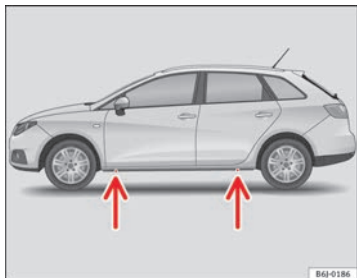

Fig. 133 Jack position points
- Locate the jacking point under the door sill closest to the wheel to be changed ⇒ fig. 133.
Recesses at the front and rear of the door sills mark the jacking points ⇒ fig. 133. There is only one jacking point for each wheel. Do not fit the jack anywhere else.